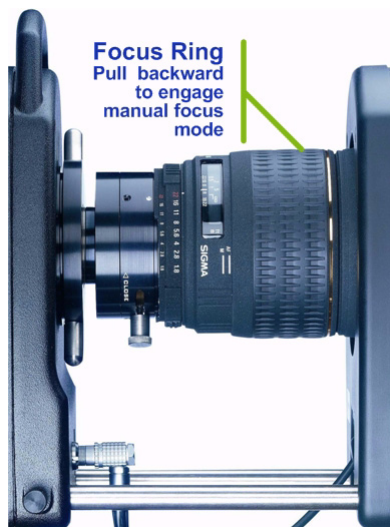

Figure C-2: Camera manual focus ring
7. If your lens has a mechanism for engaging and disengaging the front focus ring, ensure that it is set to M (manual mode), as shown in Figure C-2.
8. In the Vicon software, observe the sharpness of the image of the two 25 mm markers; slowly adjust the front focus ring of the camera lens until the two markers appear in sharp focus in the software, as shown in Figure C-2.